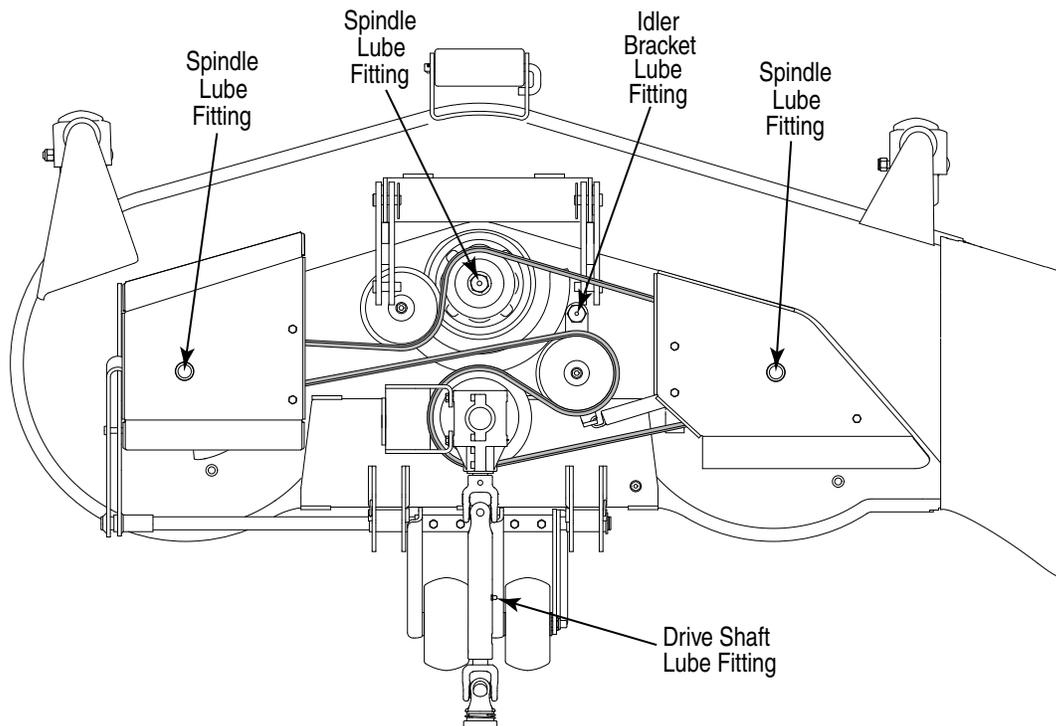

Figure 25
- After every 10 hours of operation and/or before putting the deck into winter storage, lubricate the spindle assemblies and the idler bracket with 251H EP grease or an equivalent No. 2 multipurpose lithium grease. Remove the plugs from the RH and LH belt covers to access the two outer spindle lube fitting. Refer to Figure 25.
- After every 50 hours of operation and/or before putting the deck into winter storage, lubricate the drive shaft with 251HEP grease or an equivalent No. 2 multipurpose lithium grease. Refer to Figure 25.